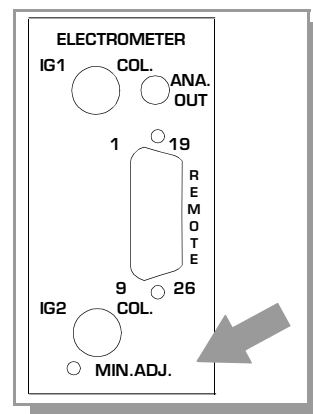

Figure 6-3
5. Locate the MIN. ADJ control on the rear panel of the Electrometer Module. See Figure 6-3.